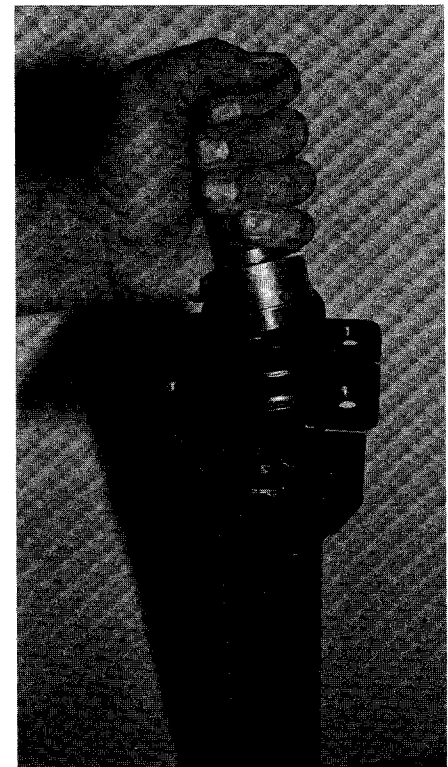

Figure 11-6
2. Install new seal (39) in axle tube (28 and 29) with seal lip facing away from bearing. Place seal in tube and use drive unit axle seal tool, CLUB CAR part # 1014162, to press in with an arbor press until seal seats firmly (Figure 11-6).
4. Install retaining ring (37) in axle tube with pliers.